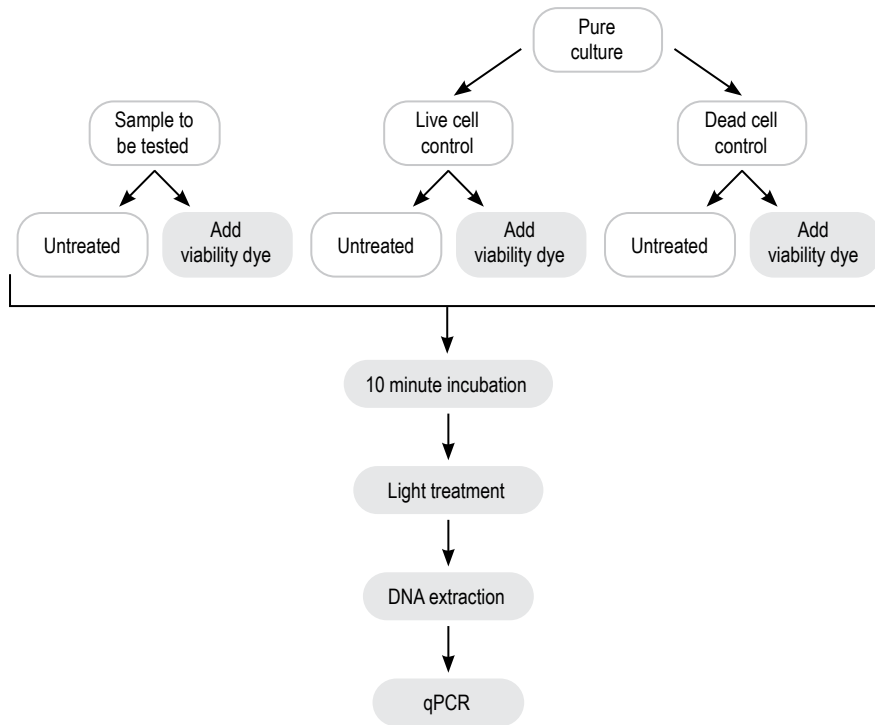

Figure 2. Viability PCR workflow overview, with recommended live and dead cell controls.
See Figure 2 for an overview of the procedure. This is a general protocol for treating cultured strains of bacteria with PMA or PMAxx™. It is recommended that you first perform a control experiment with live and dead controls for your selected organism.
3. Pipette 400 μ L aliquots of bacterial culture into clear microcentrifuge tubes. For each sample you will need one tube for PMA or PMAxx™-treated cells and one tube for untreated (no dye added) cells in order to calculate dCt (see Figure 2, “Considerations for viability PCR” #7, and “Data analysis” for additional details).